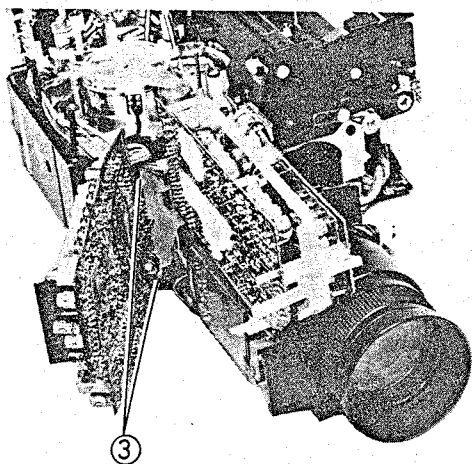

Fig. 2-21 Process Circuit Board Removal
3. Remove the process circuit board from board holders. (See Fig. 2-21)